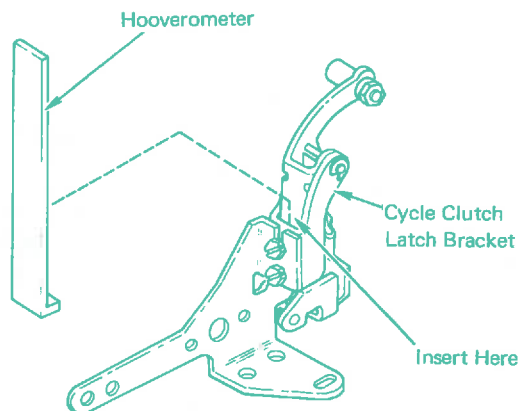

Figure 2
(See Figure 2).
5. Fit bearing tool as in Fig. 2. Press new bearing into power frame until it is in same position as old bearing was (Fig. 1). Check with Hooverometer adjustment.
(Figure 2)